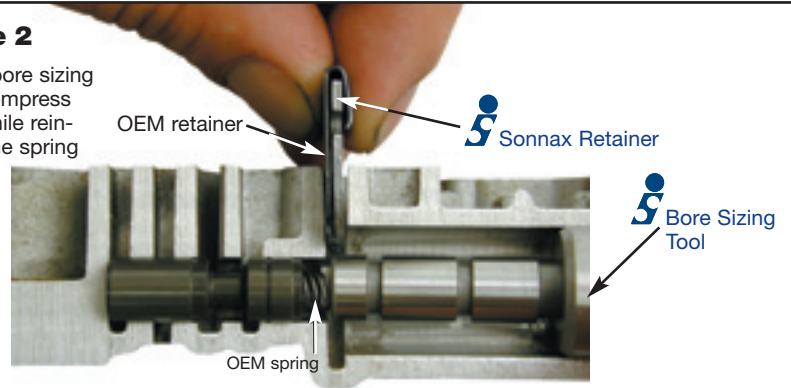

Figure 3
5. Install the new accumulator control valve with proper shims into the valve body along with the OEM spring. Press the retaining clip into its slot to retain the valve and spring. The nub on the Sonnax bore sizing tool helps with spring installation (see Figure 3). Align the slots in the retainers so that they slide over the nub on the sizing tool and catch the spring.
2. Make the "V" notch in the accumulator body deeper using a .120" drill bit (see Figure 3). Note: Early valve bodies will not have a notch.